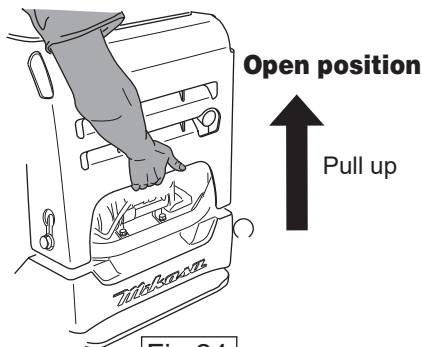

Fig.24
- 2 Hold the hook and the front side of front cover, and pull up to open position.(Fig.24)